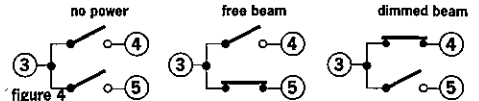

figure 4
4. Connect the output relay contacts on the receiver according to requirements. Figure 4 shows the state of the relay contacts.